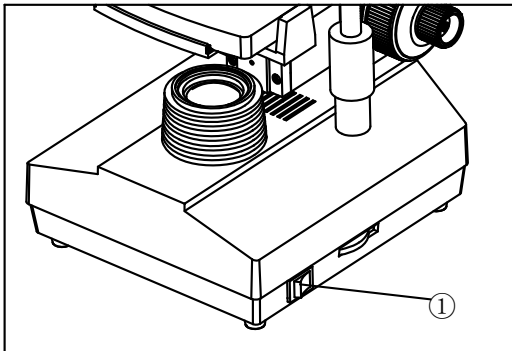

Fig.8
2.2.5 Connecting the power cord (Fig.8, 9,10)
2.2.6 Replacing the Fuse (Fig.8, 9, 10)